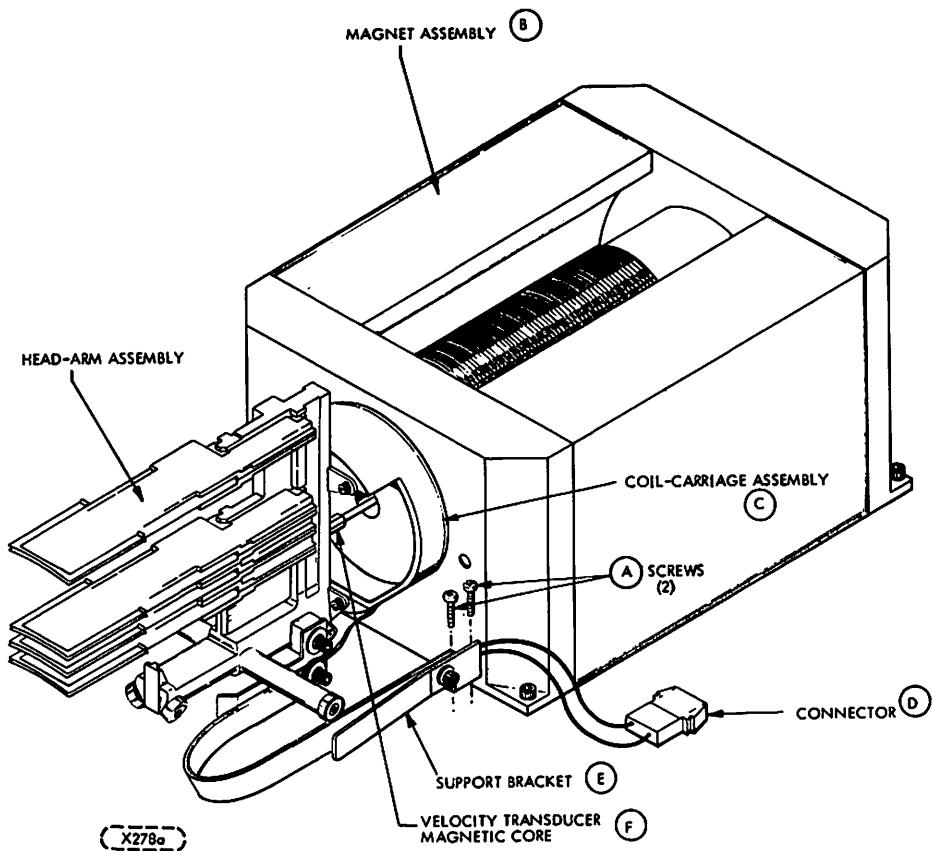

FIGURE 6-19. ACTUATOR ELEMENTS (POWER AMPLIFIER REMOVED)
- h. Remove the four screws (C) which fasten the actuator magnet to the base deck. This requires a 4/32 in. hex driver tool.
- i. Carefully slide the magnet to the rear of the drive. Be very careful not to damage voice coil or the velocity transducer magnet core (F, Figure 6-19) which is attached to the carriage and protrudes through the velocity transducer hole in the actuator magnet.
- j. To replace the actuator magnet carefully insert the velocity transducer magnetic core (F, Figure 6-19) into the velocity transducer hole in the actuator magnet.
- e. Disconnect the voice coil lead connector. See Figure 6-19.